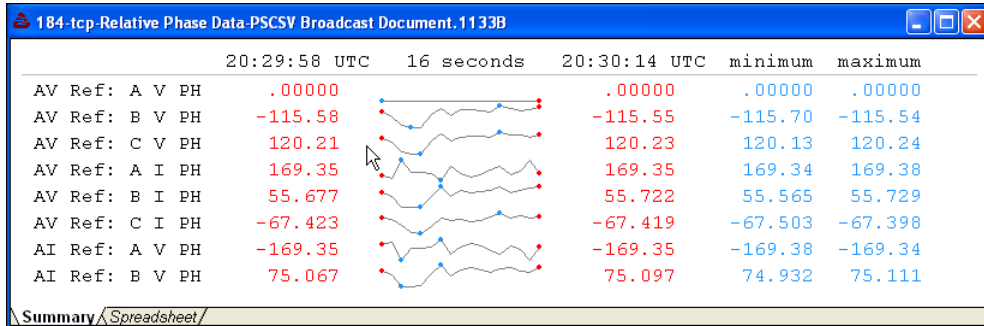

Figure 9.13: Phase Summary Data Screen
See Figures 9.13 and 9.14.
- Relative phase readings may be displayed in either Summary or Spreadsheet format, as shown in Figures 9.13 and 9.14. To select these formats, choose View > View As > Real Time (or Spreadsheet).